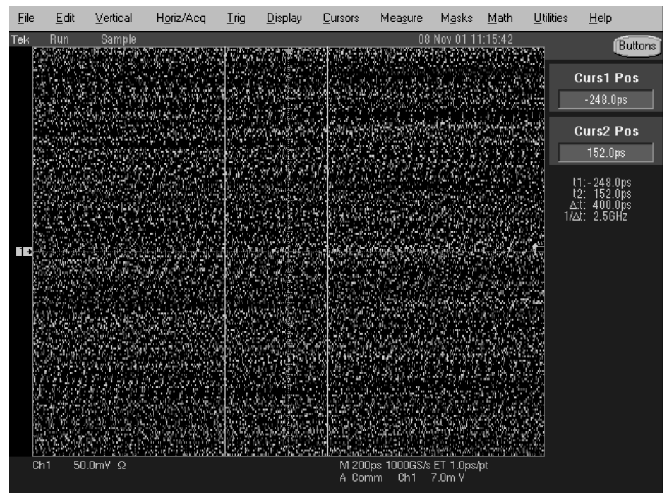

Figure 4-39: Clock recovery
NOTE. *The instrument will attempt to acquire lock once. If the input data is disrupted, removed, or heavily distorted, the instrument may not acquire lock or may lose lock. If the recovered clock is not locked to the incoming data, the waveform display will not be stable (see Figure 4-39). Once the input data is available, press the PUSH SET TO 50% knob to force the instrument to acquire lock again.*
- e. Verify that lock is acquired as in Figure 4-39.